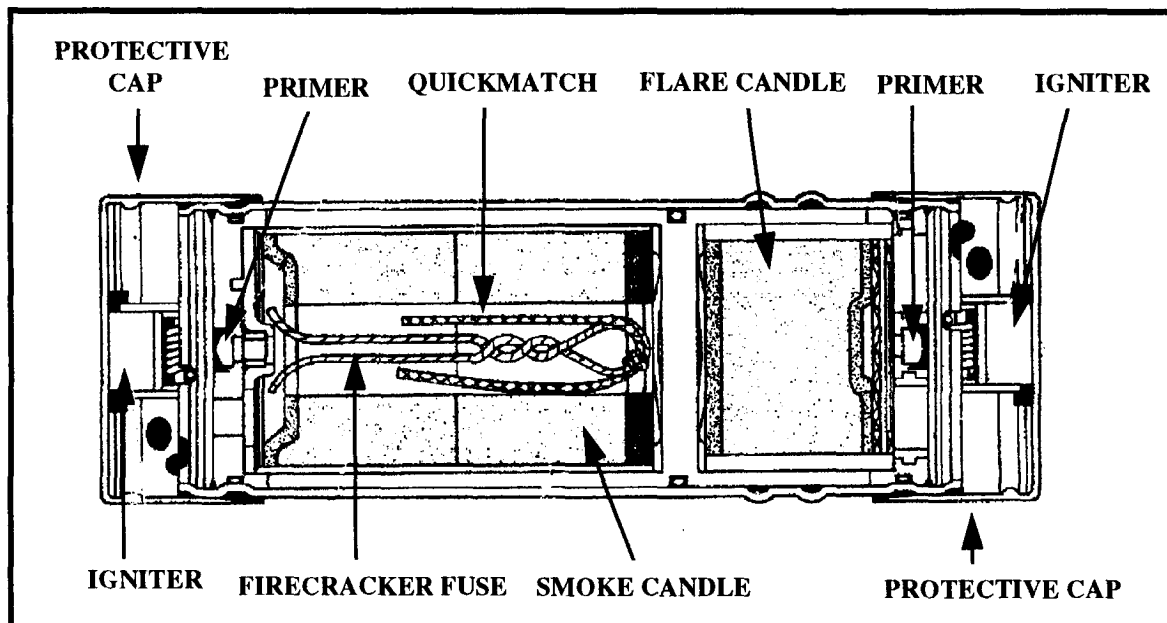

Figure 9-3. Marine smoke and illumination signal, Mk 124 Mod 0
c. **Signal, Smoke and Illumination, Marine, Mk 124 Mod 0.** This signal is made of metal and cylinder-filled with illuminant composition in one end and smoke in the other. Each end is fitted with a plastic cap. The cap on the flare end has molded protrusions or beads on the face for night identification. The smoke (day signal) end cap is smooth. A label around the signal body further identifies each end and provides precise instructions for use. A description of this smoke and illumination signal is shown in Figure 9-3.